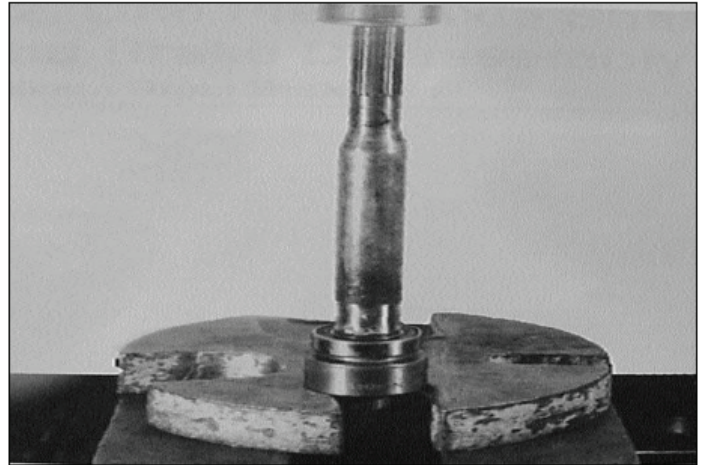

Figure 7-30. Installing Bearings on Axle Shaft
18. Press bearings (26) onto axle shafts (22). Bearing should seat on shoulder. Use appropriate driver to install bearings. See Figure 7-30.
19. Coat lip of seal (24) with SAE 30 oil before inserting axle shaft (22). Insert axle shaft assemblies into tubes. Using a properly sized bearing driver, tap axle shaft assembly until it is seated firmly against inner snap ring (25).